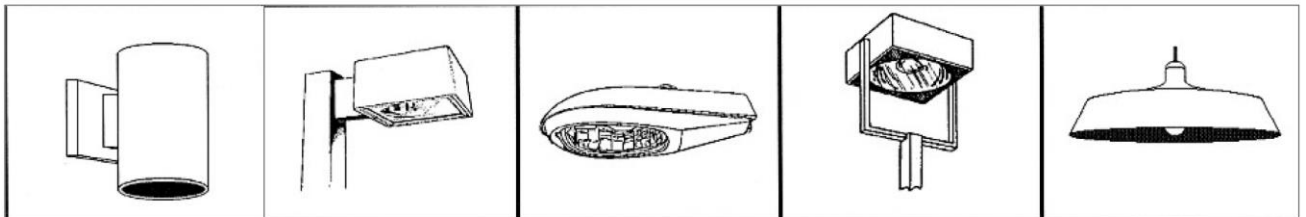

Figure 34:
- SP3. Include the following note on the site plan page: "All exterior lighting will be full cut-off and fully shielded in compliance with Subchapter E 2.5 and will be reviewed during building plan review. Any change or substitution of lamp/light fixtures shall be submitted to the Director for approval in accordance with Section 2.5.2.E." Include Figure 34 showing examples of fully-shielded fixtures: